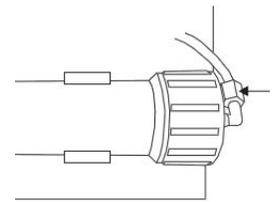

Figure 12
- Remove the three elbow fittings attached to both ends of the RO membrane. See figure 12. Remember correct attachment locations for the new membrane.